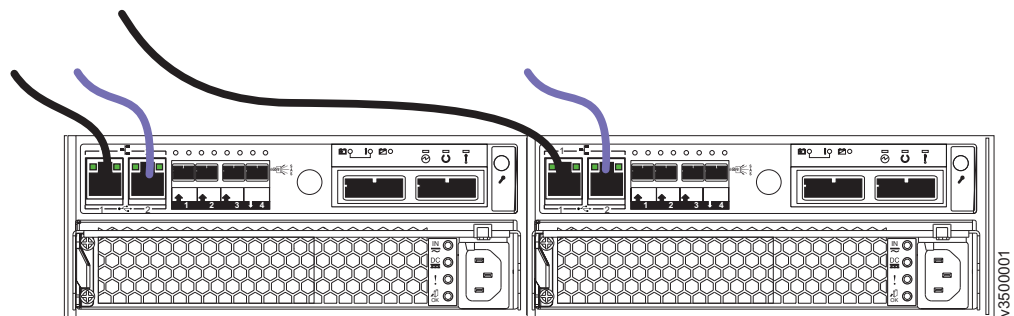

Figure 28. Connecting the Ethernet cables
1. Connect Ethernet port 1 on each node canister to the same Ethernet switch, as shown in Figure 28.
2. Optionally, if a second Ethernet switch (not the switch used in step 1) is available, connect Ethernet port 2 on each node canister to the second switch. (Figure 28 shows these optional cables in a lighter color.)